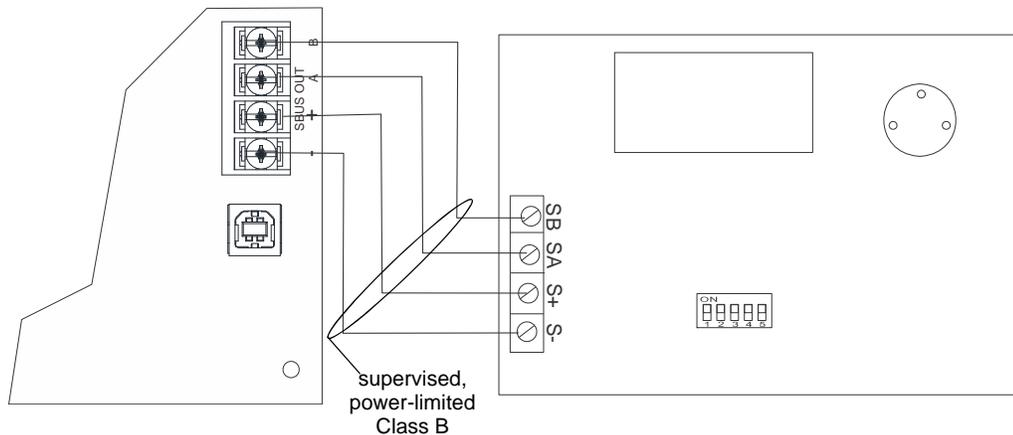

**Figure 4.20 Flush Mounting the Backbox**
3. Fit the annunciator backbox into the hole and stabilize with mounting wires. Angle the mounting wires into the first hole past the sheet rock. Secure the wires behind the screws as shown in Figure 4.20. When all four wires are in place, the backbox should fit snugly into the hole in the sheetrock.